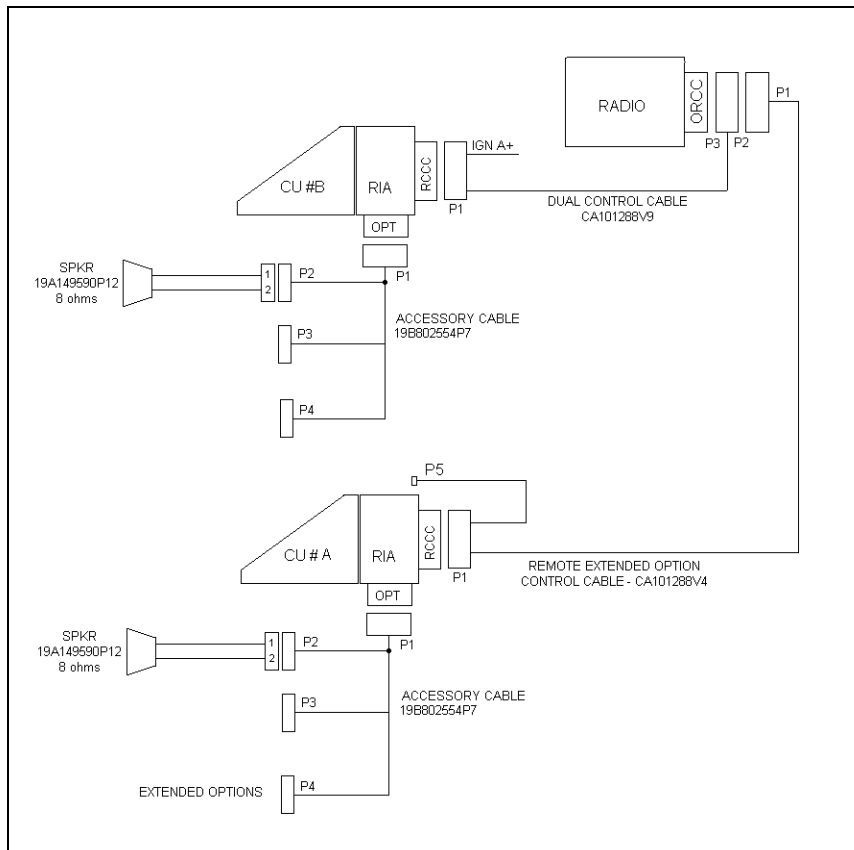

Figure 27 – M7100^{IP} Dual Control Unit Remote/Remote Mount Installation Configuration – Parallel Audio
11. Main Control Unit Speaker: Connect the lead nearest the speaker to Pin 87 of the relay. Connect the lead nearest the connector to Pin 30 of the relay. Connect connector to the accessory cable P2 (Refer to Figure 27).
12. Auxiliary Control Unit Speaker: Connect the lead nearest the speaker to Pin 87A of the relay. Connect the lead nearest the connector to Pin 30 of the relay. Connect the connector to accessory cable P2 (Refer to Figure 27).
13. For Each Relay: Connect a #18 AWG black wire between the relay, Pin 85 and accessory cable P3-1 (labeled “**OUT2**” on schematic diagrams in the service manual). Use a 1/4” tab receptacle on the relay side and a mating Molex connector and pins on the accessory cable side. Connect the mating Molex connector to the accessory cable P3 when finished (Refer to Figure 27).
14. For Each Relay: Connect one end of a #18 AWG red wire to the relay, Pin 86. Cut the lead to length, and connect the other end to the 1 amp fuse holder supplied. Use crimp on connectors supplied. Connect the other side of the 1 amp fuse holder to the A+ battery source or a vehicle A+ fuse block. Use a #18 AWG red wire and a ring lug supplied, if needed (Refer to Figure 27).